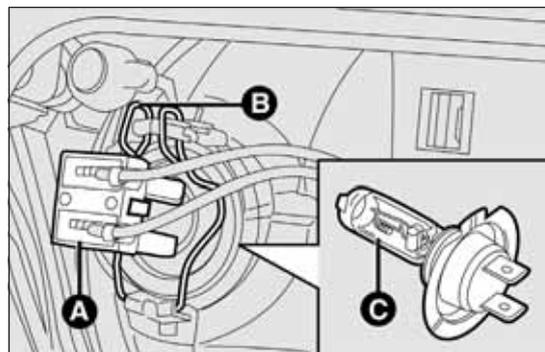

fig. 193
- disconnect the electrical connector A fig. 193;